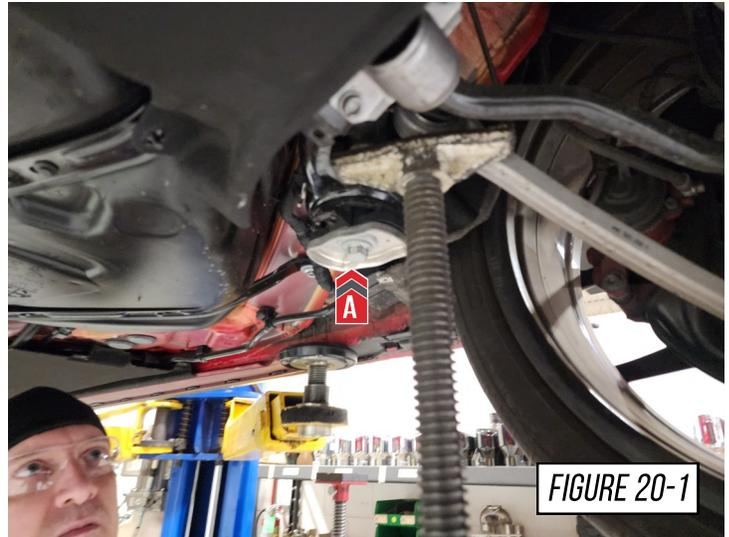

FIGURE 20-1
Working one side at a time, use a pole jack to support the passenger side rear subframe of the car. Place the pole jack behind the sway bar as shown in **Figure 20-1**.
Remove the subframe bolt shown at (A) in **Figure 20-1**.